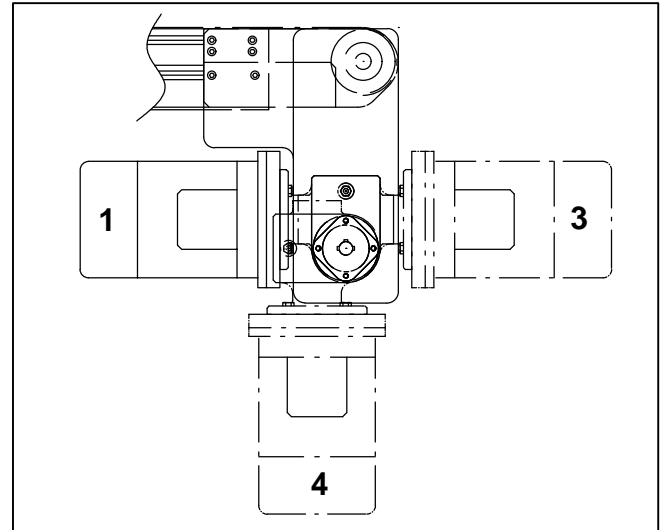

Figure 4
**NOTE:** Gearmotor may be operated in positions 1, 3 or 4 (Figure 4).